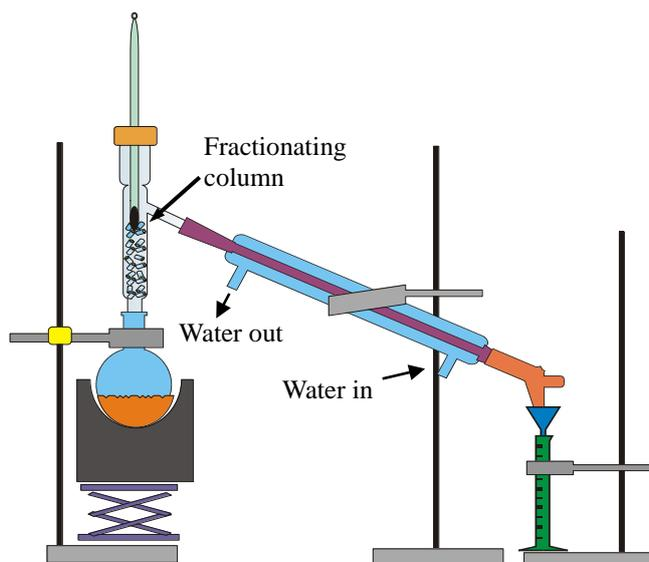

Figure 24-7 The set-up of fractional distillation set up
8. Setup the fractional distillation apparatus as illustrated in the Figure 24-7, secure the fractionating column with a clamp, and collect the distillate in a graduated cylinder directly.